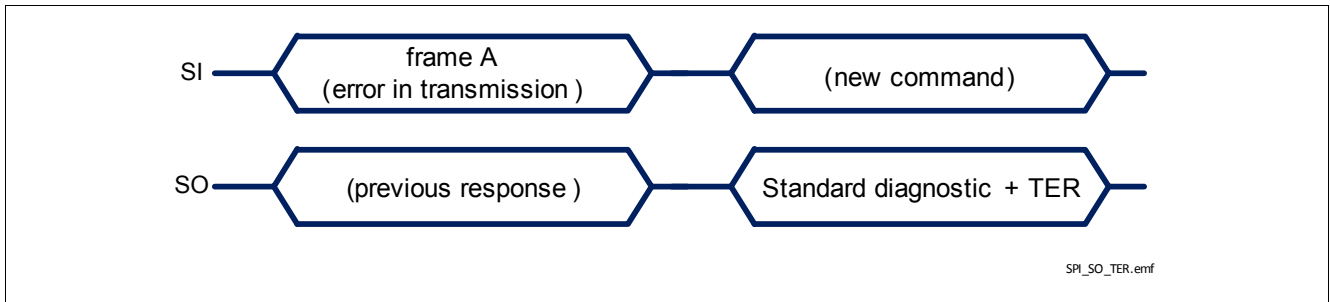

Figure 34 TLE75080-EMH response after a error in transmission
- in case an error in transmission happened during the previous frame (for instance, the clock pulses were not multiple of 8 with a minimum of 16 bits), shown in Figure 34